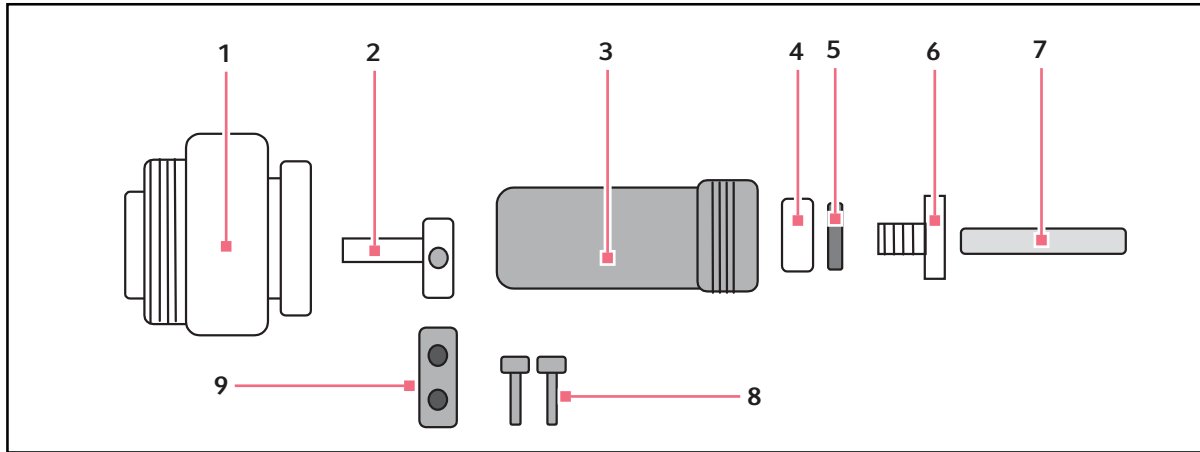

Fig. 8-6: Internal AC Moisture-Proof Plug
The AC socket (see Fig. 8-6 on p. 75), with cover and mating plug (supplied) is designed to be used in humid environments. To use the socket, you have to connect the special male plug (supplied with the unit) to the equipment that you use in the Innova 42/42R. If your equipment has a detachable power cord, you may want to obtain a different power cord to be used solely with the Innova 42/42R shaker.
1. Connect the power cord to the electrical plug. Slide the power cord through the plastic nut, washer, rubber grommet and the main body (see Fig. 8-6 on p. 75).